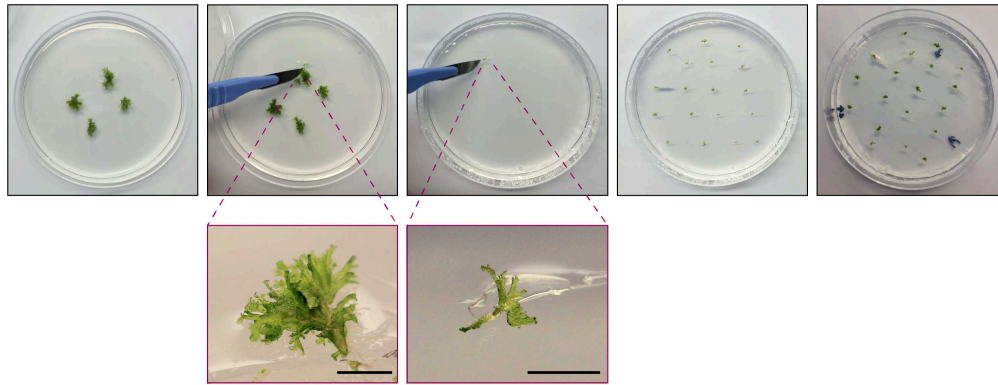

Figure 2: *A. agrestis* Bonn tissue culturing
- 3 Axenic cultures of *A. agrestis* gametophytes can be routinely propagated by monthly sub-culturing as shown in **Figure 2**.